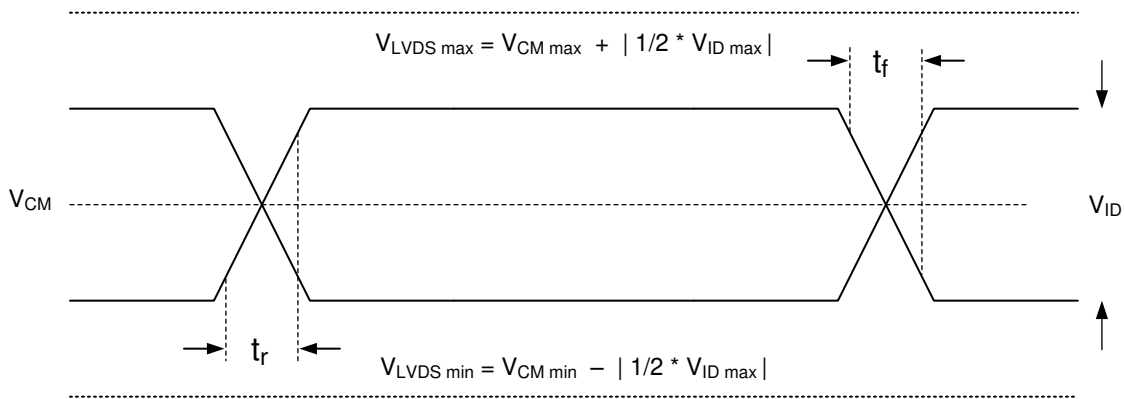

Figure 5-5. LVDS Waveform Requirements
- (10) Refer to Figure 5-5.
- (11) Simultaneous exposure of the DMD to the maximum Section 5.4 for temperature and UV illumination reduces device lifetime.
(2) See Figure 5-5 for Timing Requirements for LVDS.
(3) Channel C (Bus C) includes the following LVDS pairs: DCLK_CN and DCLK_CP, SCTRL_CN and SCTRL_CP, D_CN(15:0) and D_CP(15:0).
(4) Channel D (Bus D) includes the following LVDS pairs: DCLK_DN and DCLK_DP, SCTRL_DN and SCTRL_DP, D_DN(15:0) and D_DP(15:0).